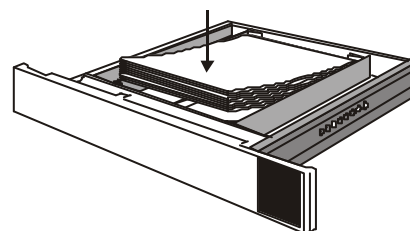

Fig. 12 Filling in Paper
- Insert approx. one third of the ream in the tray and ensure that all paper is lined up with the rear stop. Repeat two more times for the rest of the ream (Fig. 12).